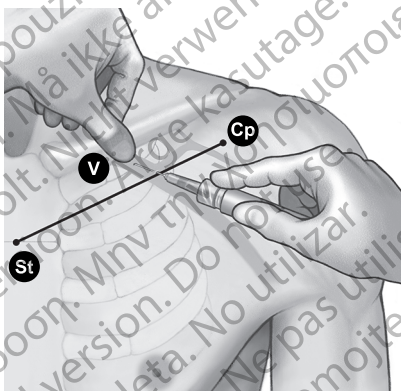

Figure 7. Location of thumb and needle entry
- Press a thumb against the index finger and project 1–2 centimeters below the clavicle to shield the subclavius muscle from the needle (when hypertrophy of the pectoralis muscle is apparent, the thumb should project about 2 centimeters below the clavicle because the subclavius muscle should be hypertrophied as well) (Figure 7 Location of thumb and needle entry on page 19).